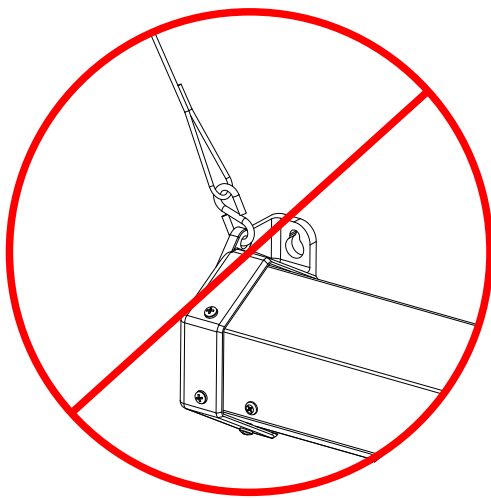
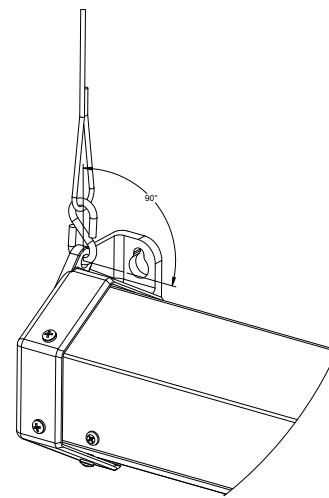

Figure 3
Figure 4
**NOTE: DO NOT** hang from the end caps at an angle. See Figure 3. Must be perpendicular to the mounting See Figure 4.
**To Reduce Screen Drop:** Turn the white limit switch screw (Figure 3) clockwise to decrease the amount of screen drop. Run the screen down to test the stop position. If the screen drops too far, raise the screen about one foot and adjust the limit switch again. Repeat until the desired position is set.
2. Locate the two tactile buttons on the back of the switch. They are square silver with black round buttons. See Figure 4 (VPI) or Figure 5 (LVC) for diagram.